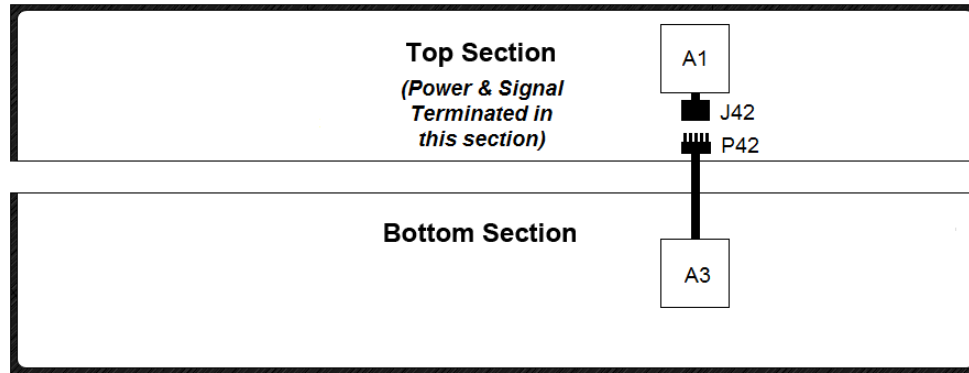

Figure 21: Power/Signal Connection – Two Sections, BA-2025 & BA-2027 (Front View)
- For the BA-2025 and BA-2027, route the 5-pin interconnect cable from the Bottom Section up into the Top Section, and connect the P42 plug to the J42 jack (**Figure 21**).